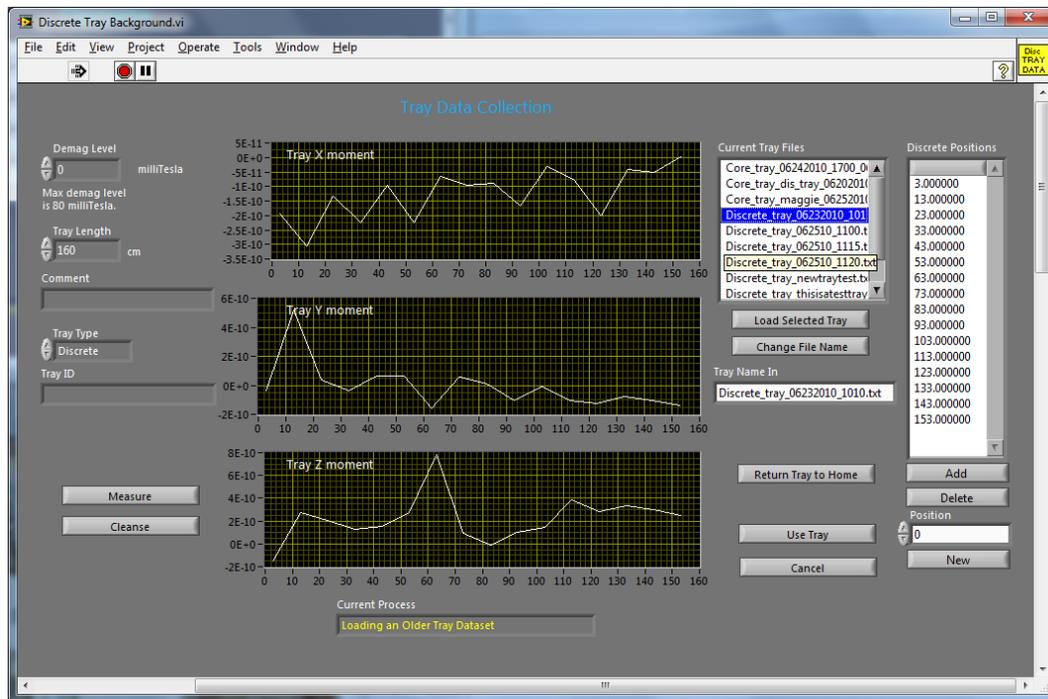

Figure 5. Tray Data Collection Screen.
1. On the *Main* screen, click **Measure Tray** to open the *Tray Data Collection* screen (**Figure 5**).